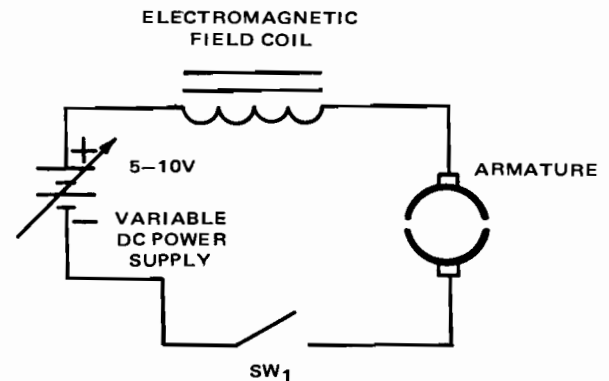

Fig. 12-4-1
2. Connect field coil and armature brush terminals as indicated in Fig. 12-4-1.